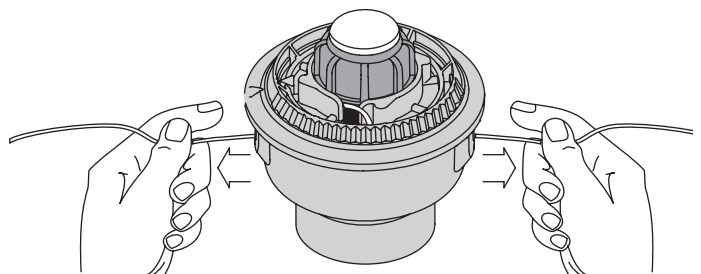

Fig. 20
9. If winding the line becomes difficult or if the line jams, pull the ends of the line from the spool (Fig. 20). Continue winding the inner reel counterclockwise.
If the SpeedSpool® does not release line correctly, pull the ends of the line firmly from the spool (Fig. 20). If this does not release the line, follow the *Cleaning the SpeedSpool®* instructions.